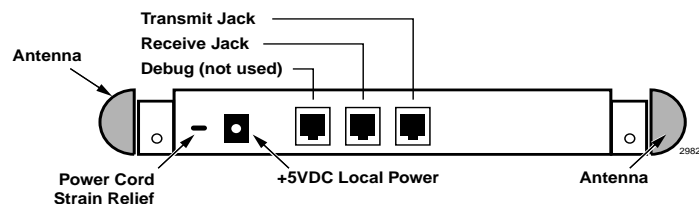

Figure 16-17 Location of Transmit and Receive Jacks
3. Connect the *transmit* cable (pair 21 or 25) to the receive side (see Figure 16-17).
4. Connect the *receive* cable (pair 20 or 24) to the transmit jack (see Figure 16-17).